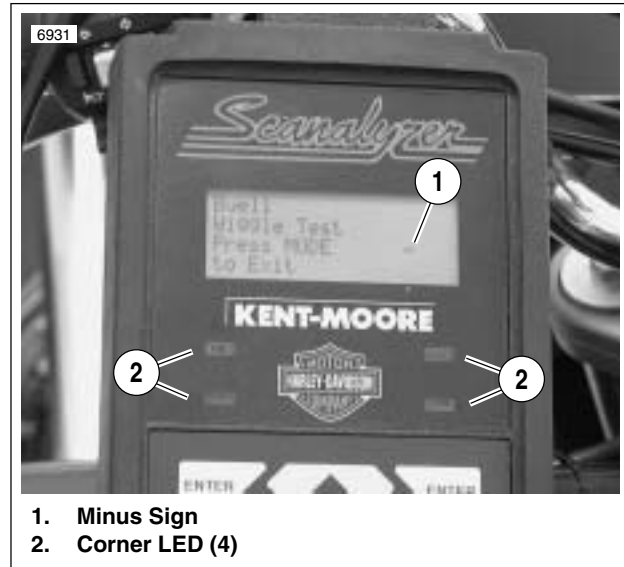

Figure 4-15. Wiggle Test Indicators
4. Shake or wiggle harness to detect intermittents. If intermittents are present the Scanalyzer will beep, light the four corner LEDs and display a minus sign when a current trouble code is detected. See Figure 4-15.